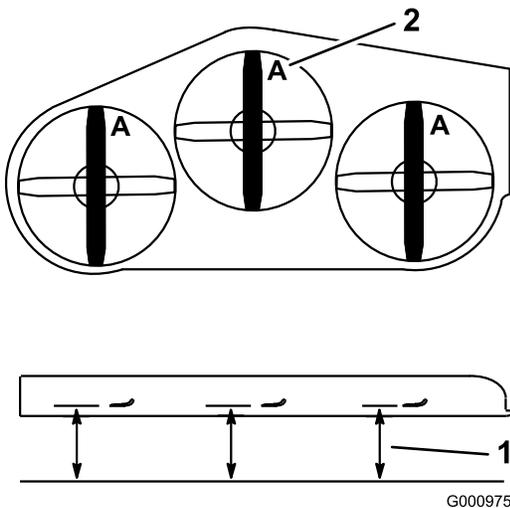

Figure 98
4. Measure at **A**, and from a level surface to the cutting edge of the blade tips (Figure 98).